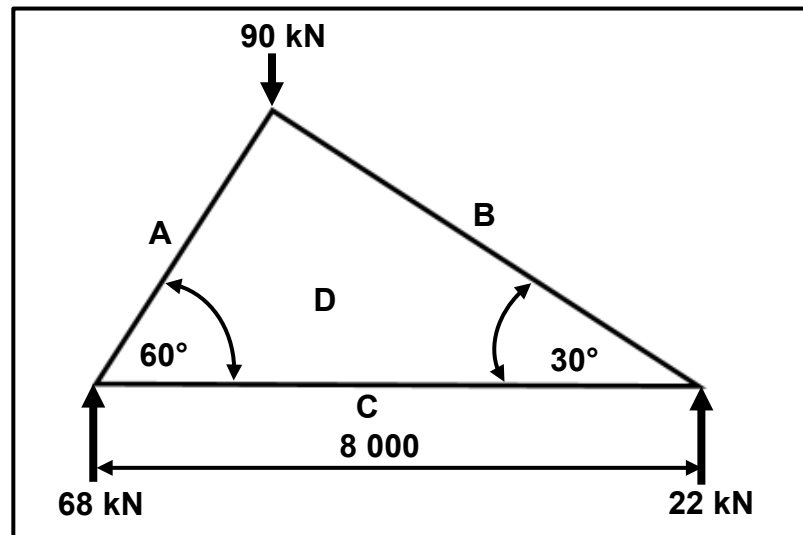

FIGURE 7.3
7.3 A framework is shown in FIGURE 7.3 below. Answer the questions that follow.